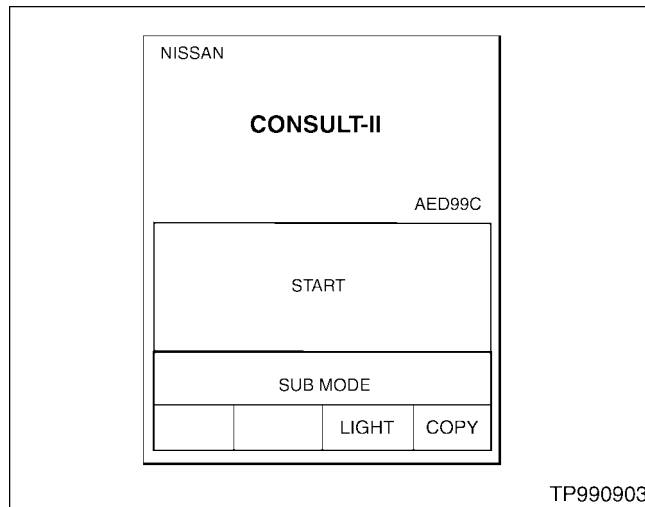

Figure 9
10. Turn the ignition switch to "ON" (do not start the engine). CONSULT-II will then turn on automatically (see Figure 9). Now touch "START".